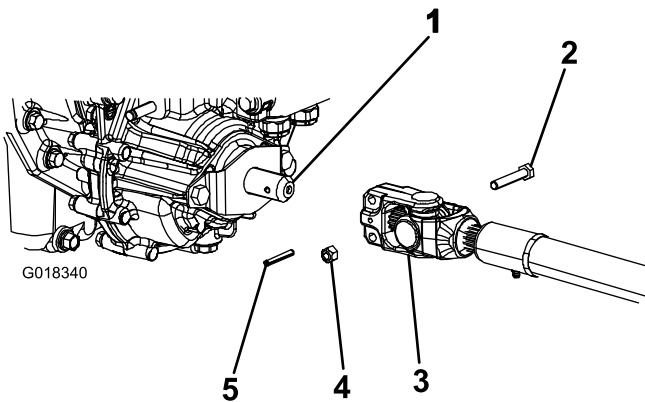

Figure 4
3. Position the PTO drive shaft under the front of the machine. Make sure that the drive shaft slip shaft yoke (Figure 4) is toward the transmission PTO shaft.